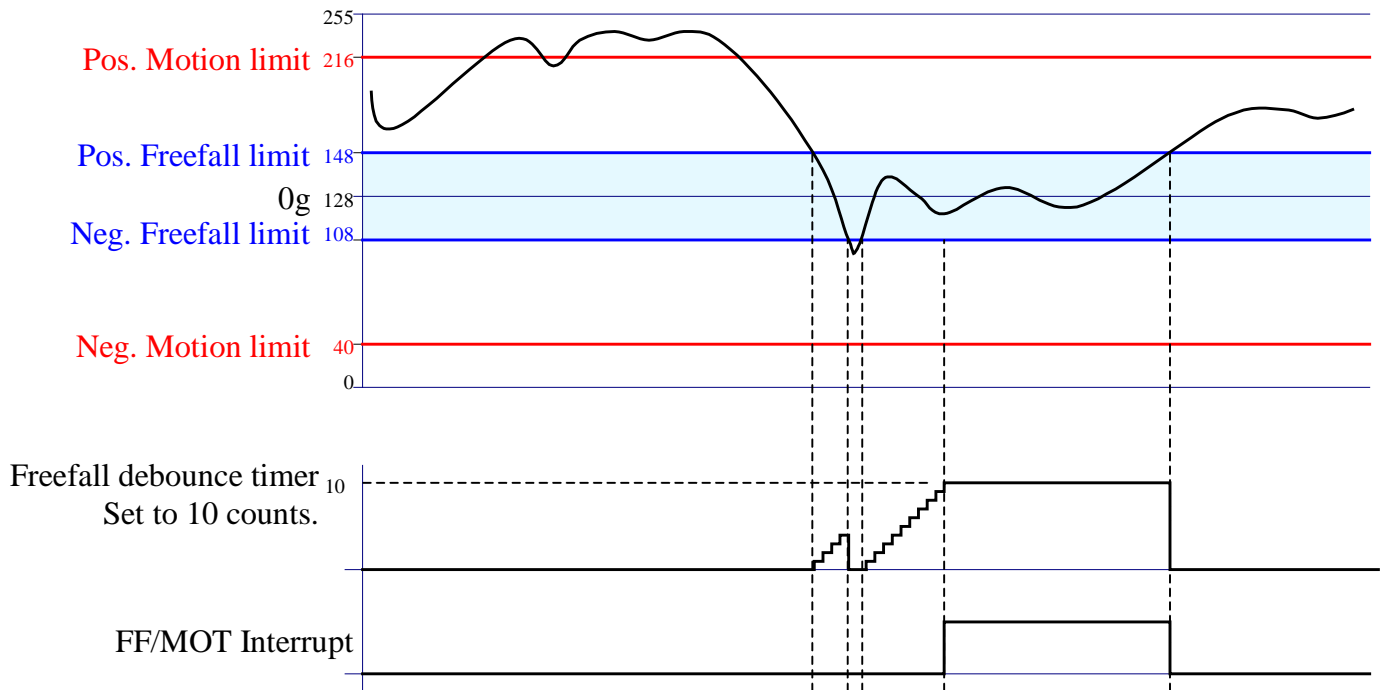

Figure 9. Typical Free-fall Interrupt Example (FFLat = 0, MOTEn = 0)
**FFLat** switches the free-fall interrupt function between latching and non-latching as shown in Figures 9 and 10.